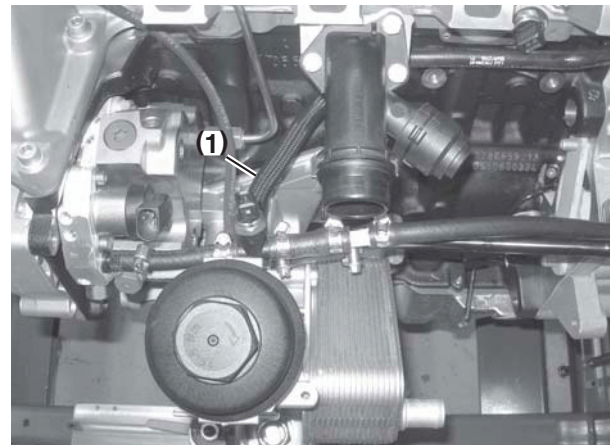

Figure 6-41
5. Disconnect return fuel hose (**Figure 6-41, (1)**) from fuel tee. **NOTICE: NEVER disassemble fuel return line assembly. No individual parts are available and it must be replaced as a complete assembly.**